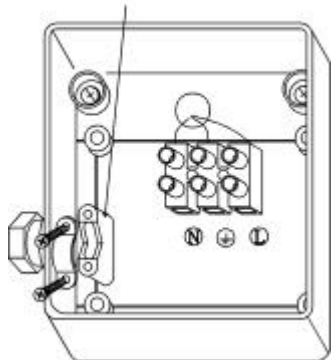

FIGURE 2
- (5) Unscrew two screws at the rear of junction box then remove junction's box back plate.
- (6) Loosen two screws on the pressure block. (FIGURE 2)